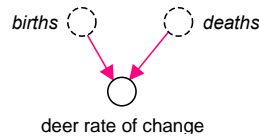

Figure 31: Deer rate of change
- Ghost the flows *births* and *deaths*, and connect to a new converter *deer rate of change*, Figure 31, where the formula is:  $deer\ rate\ of\ change = births - deaths$